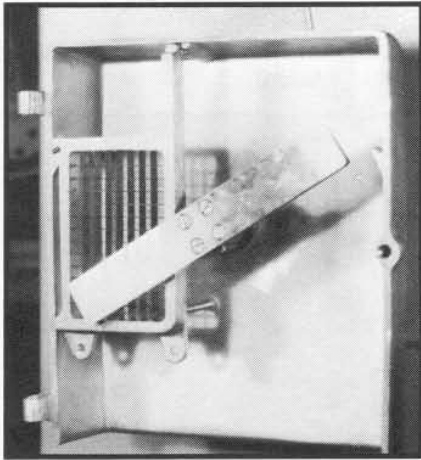

FIGURE 5
4. Insert Knife Assy. (F) onto drive shaft of housing rear as shown. [Figure 5]